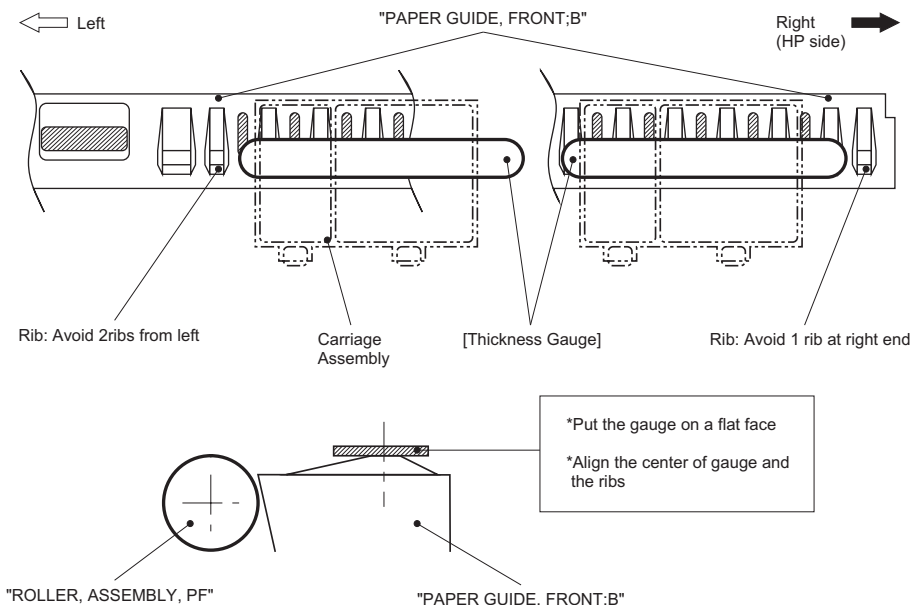

Figure 5-1. Paper Gap Adjustment
3. Move the carriage to the center and set the thickness gauge (1.14mm thick) on the fixed position of “Paper Guide, Front;B” as you can see in the figure5-1.